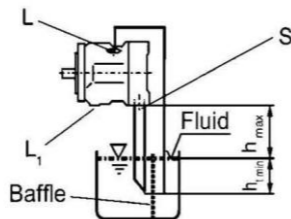

Fig. 4
b) If the minimum fluid level is equal to or below the top of the pump, pip ports "L" and possibly "S" as Fig. 4.; close port "L1" The conditions according to item 1.2.1.